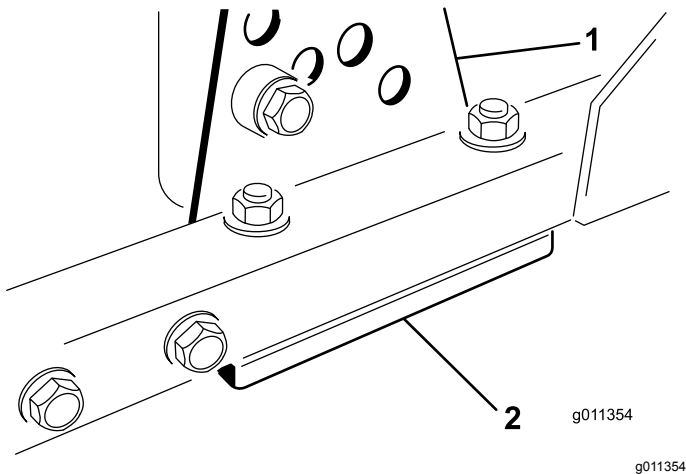

Figure 102
- Remove the height-of-cut bracket, (front, left, or right) from the deck frame (Figure 102).
- Adjust 1.5 mm (0.060 inch) shims and/or 0.7 mm (0.030 inch) shims between the deck frame and bracket to achieve the desired height setting (Figure 102).